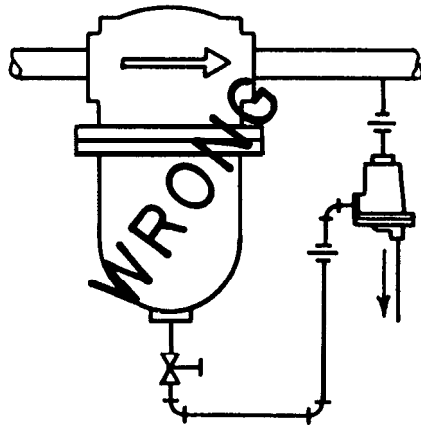

FIG. 2
5. Install the drainer below the drain point and close to the unit being drained or as directed by the equipment manufacturer. DO NOT INSTALL THE DRAINER ABOVE THE DRIP POINT. LIQUID MAY COLLECT IN THE UNIT DRAINED AND MAY INTERFERE WITH ITS OPERATION. See Figure 2.